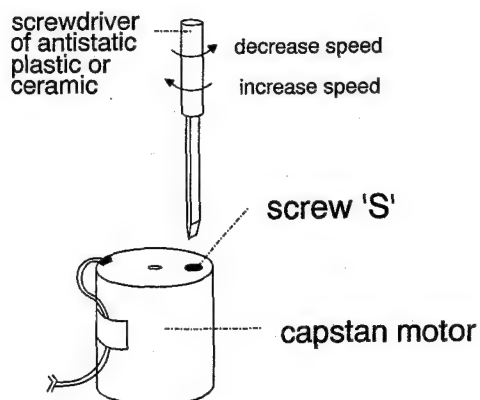

Figure 2
- If the pressure is incorrect, replace spring 94 (95).
4. Wow & flutter/tape speed (Fig. 2)